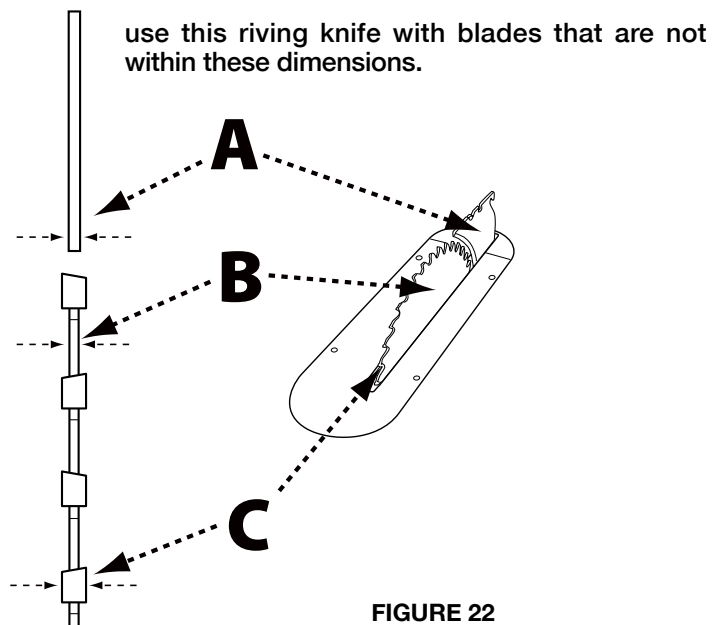

FIGURE 22
NOTE: Safety devices, blade guard assembly and anti-kickback assembly have been removed in Figure 22 in order to show the location of specific features. When operating the saw, these safety devices should be in place and working properly.
The riving knife thickness (A) must be greater than the blade body or plate thickness (B) and less than the kerf or cutting width (C) as shown in Figure 22. The riving knife provided with this saw is 2.2mm thick and may be used only with a 10-inch (254mm) blade with 0.102-inch (2.6mm) minimum kerf width and 0.073-inch (1.8mm) maximum body thickness. Do not attempt to